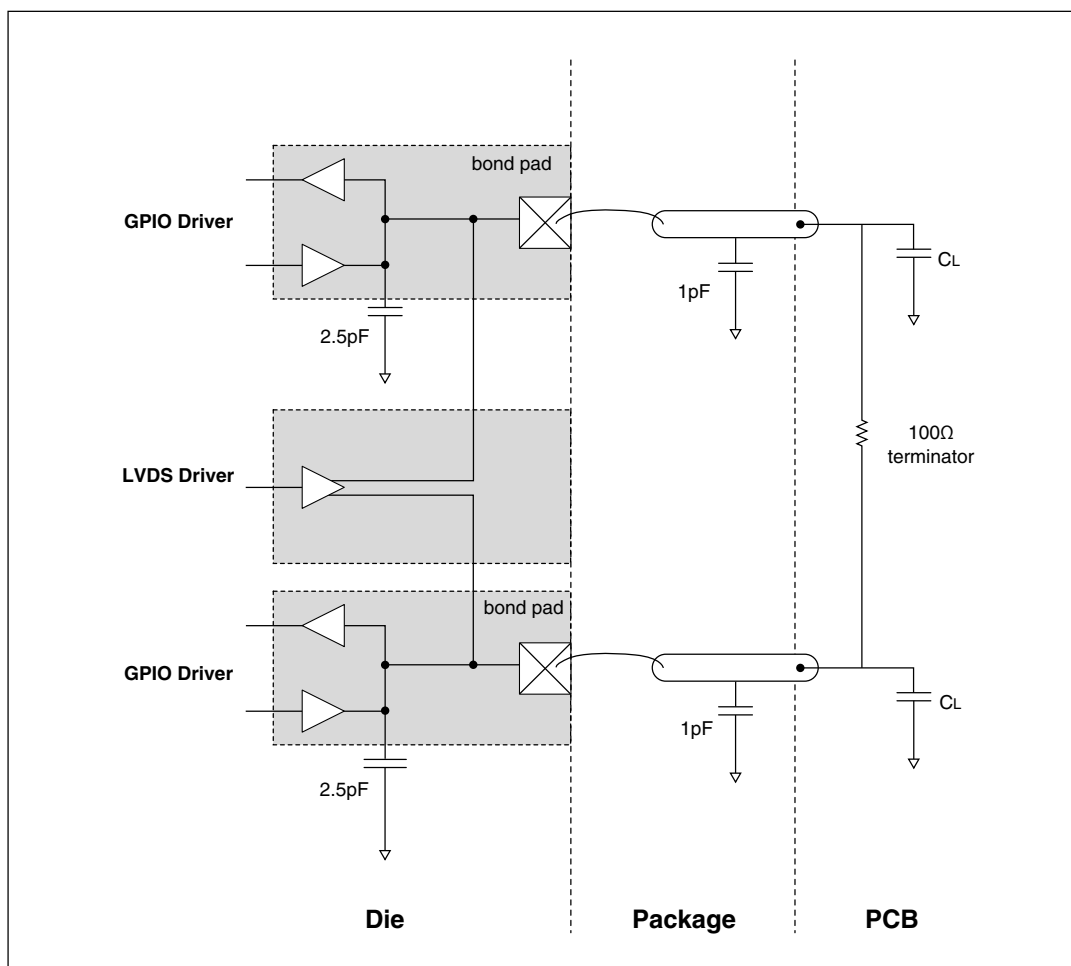

Figure 11. LVDS pad external load diagram
- Total internal capacitance including receiver and termination, co-bonded GPIO pads, and package contributions. For bare die devices, subtract the package value given in Figure 11.
1. The LFAST pad electrical characteristics are based on worst-case internal capacitance values shown in Figure 11.
2. Valid for maximum data rate f_{DATA}. Value given is the capacitance on each terminal of the differential pair, as shown in Figure 11.
1. The MSC and DSPI LVDS pad electrical characteristics are based on the application circuit and typical worst-case internal capacitance values given in Figure 11.
4. Measured at the transmitter output across a 100 Ohm termination resistor on a device evaluation board. See Figure 11.